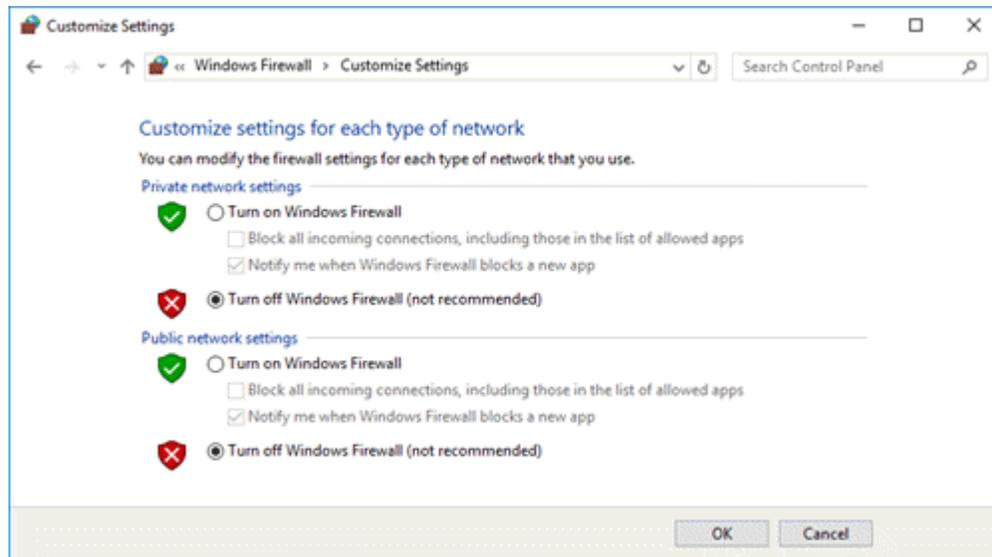

Figure 126: Windows Firewall Disabled
- In the desired sections, click **Turn off Windows Firewall** (Figure 126).